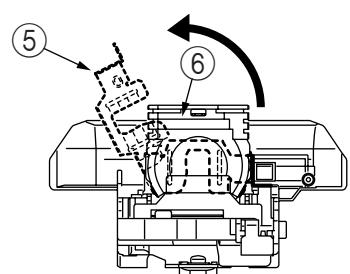

Figure 3.3.3
- (1) Remove the access cover ①.
- (2) Move carriage frame ⑨ to lack of a pull-up cover ②.
- (3) Remove the ribbon cartridge.
- (4) Remove the screw ③, and then the fan cover ④, and connector of head fan motor ⑩.
- (5) Pull up and rotate the head clamp ⑤ to unclamp the printhead ⑥ as shown Figure 3.3.3.
- (6) Lift the printhead ⑥ and, from the carriage frame ⑨, unlatch the Head Cable ⑦.
- (7) Disconnect Head Cable ⑦ and paper width sensor cable ⑧ from the printhead ⑥.
- (8) Remove the head fan motor ⑩ from the fan cover ④.
- (9) To install, follow the removal steps in the reverse order.